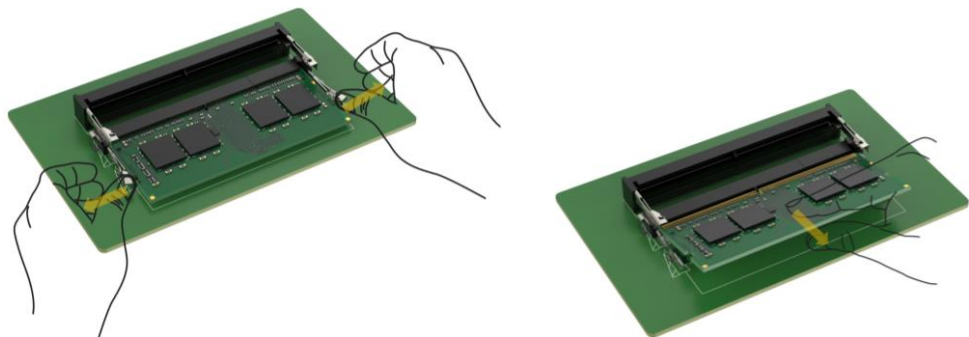

Figure 3-6: Remove the Memory
- Step 1:** Remove the installed memory. Push outwards the retaining clips located at each end of the SO-DIMM slot, which causes the memory module to pop up. Then gently pull the module out of the slot along the angle it has adopted. See **Figure 3-6**.